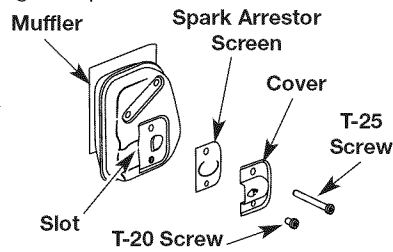

Fig. 39
2. With a flat blade screwdriver or Torx T-20 bit and a T-25 bit, remove the screws attaching the spark arrestor cover to the muffler (Fig. 39).